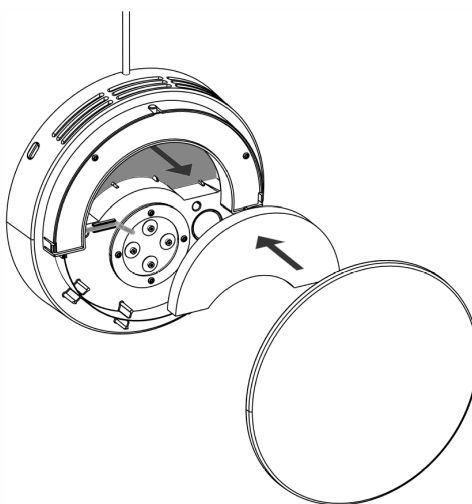

Figure 21 - Change the internal filter
2. Remove the internal cover. Take out the old filter and remove any dirt with a dry rag, see Figure 21 below. The spent filter can be disposed of as household waste. Replace the old filter with a new one. Be careful that the smooth side of the filter is placed facing the ventilation unit. Reattach the internal cover.